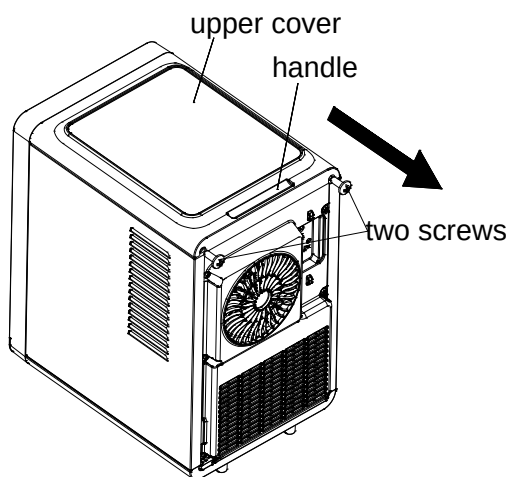

Figure 1
1. Use a tool to remove the two screws on the upper rear part of the machine, as shown in Figure 1.
2. Press the "handle" position of the upper cover with your hand and push the "upper cover" backward. After pushing it out, place the "upper cover" aside, as shown in Figure 1.